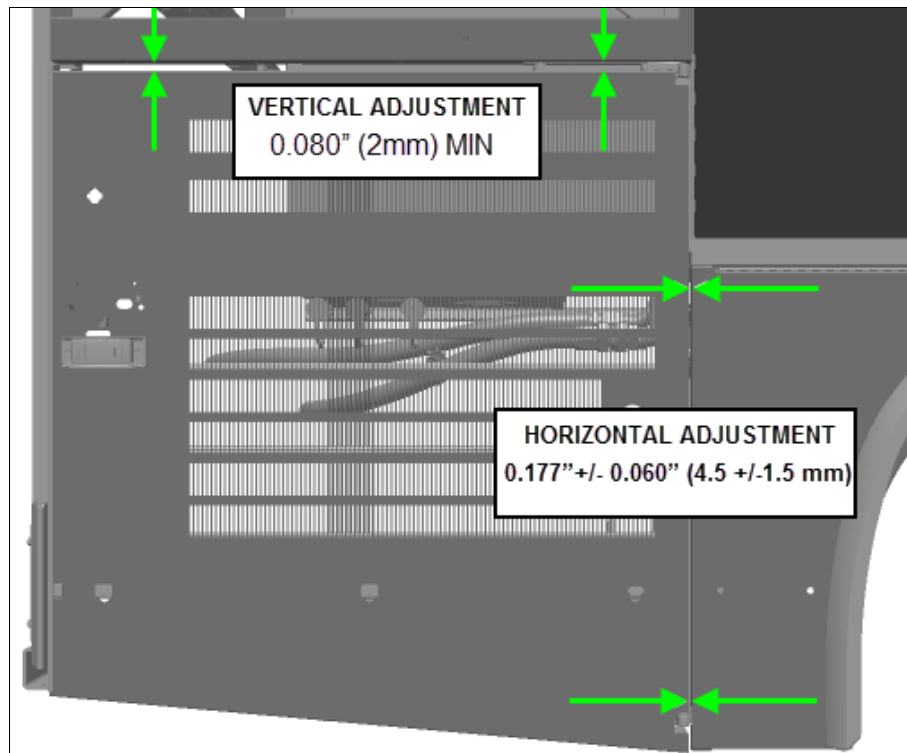

FIG.9 COMPRESSOR DOOR HORIZONTAL & VERTICAL GAPS
5. Remove door support installed at step 2 and open and close the door several times to make sure it is working properly, check door top and side adjustments. There should be an even (parallel) gap of at least 0.080" (2mm) at the top of the door and a 0.177" +/- 0.060" (4.5 +/-1.5 mm) gap between the door and the vehicle rear fender (Fig.9).